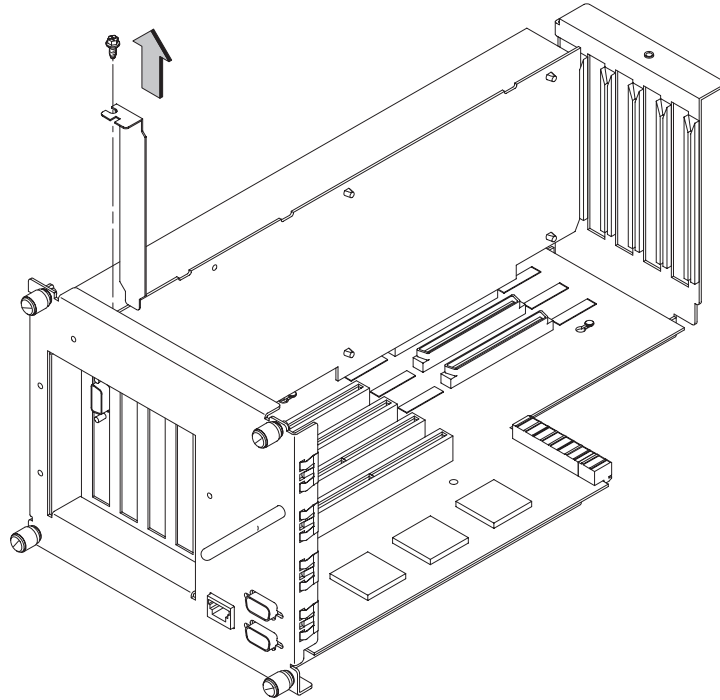

Figure B-38. Removing the PCI/EISA Slot Cover
4. Unscrew one screw at the top of the slot cover and pull the cover straight up to remove it. See Figure B-38.